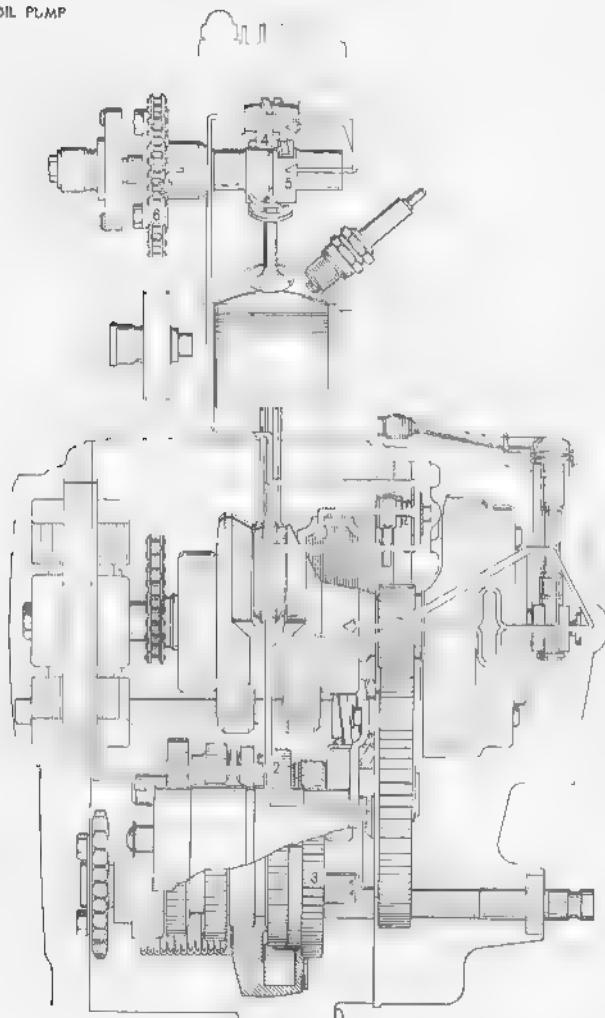

Fig. 3.73 Flow of lubricating oil
The other route: the oil is piped through the passages in the right crankcase and the crankcase cover where it is further branched so that one of the routes lubricates the crankshaft and component parts and the other is routed to the hollow in the camshaft where the moving parts within the cylinder head such as the rocker arm ④, camshaft ⑤, and lubricates the cam chain ⑥ on its way back to the sump. The moving parts such as gears, bearings which are not lubricated by pressure are lubricated by oil splash and spray (Fig. 3.73)